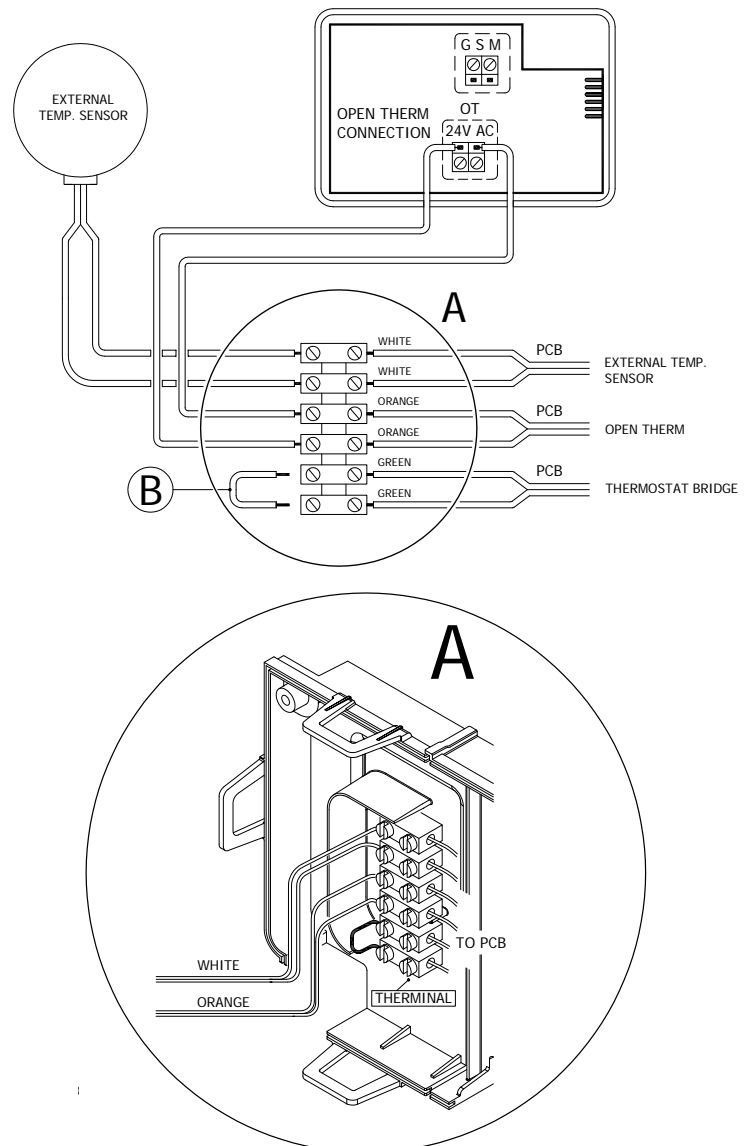

Figure 2.34
4. Insert the cable through the grommet located on the terminal (see fig. 2.34).